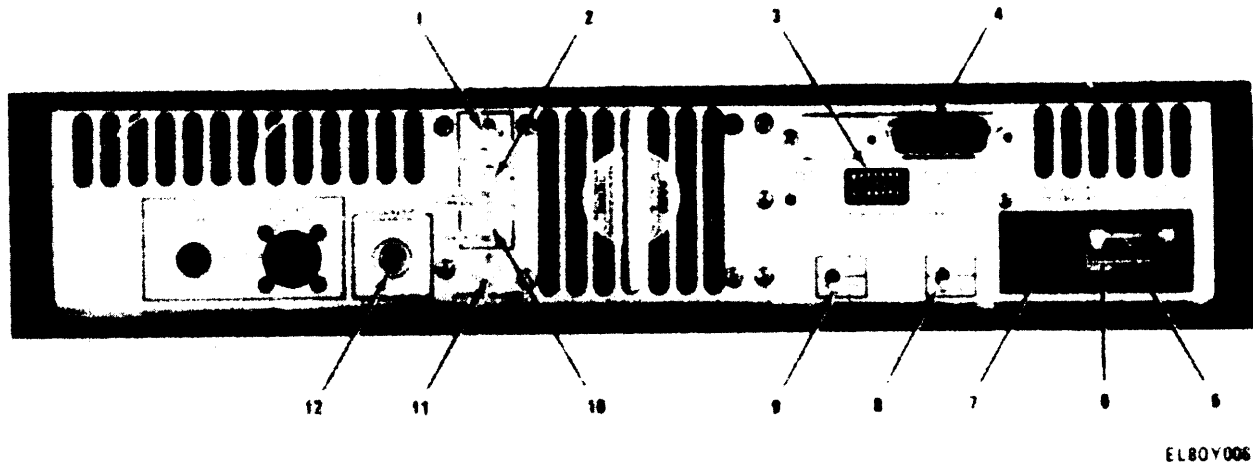

Figure 2-2. Counter Rear Panel
Operator's rear-panel controls and connectors are shown in figure 2-2 and are keyed to table 2-2, which describes their functions.
(2) The counter is normally shipped ready for operation from a 115 Vac power line, with a 1.5 ampere slow-blow fuse installed. Check the marking on the line voltage selector card (6, fig. 2-2), visible through the window in the fuse cover, to be certain that it reads 115 volts.